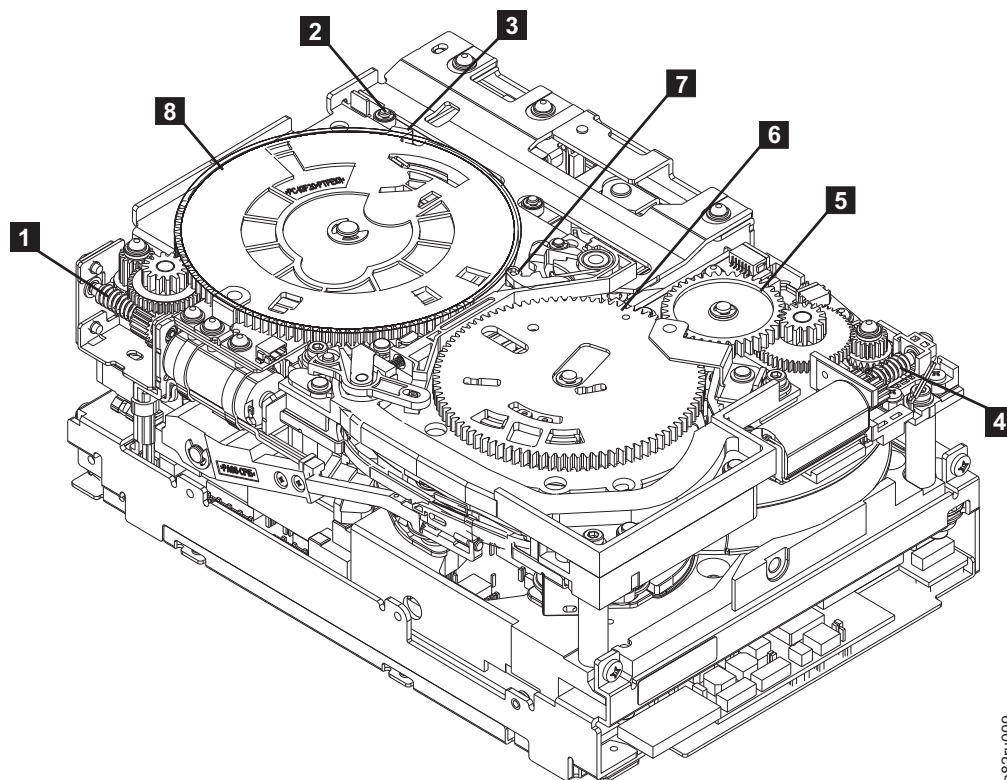
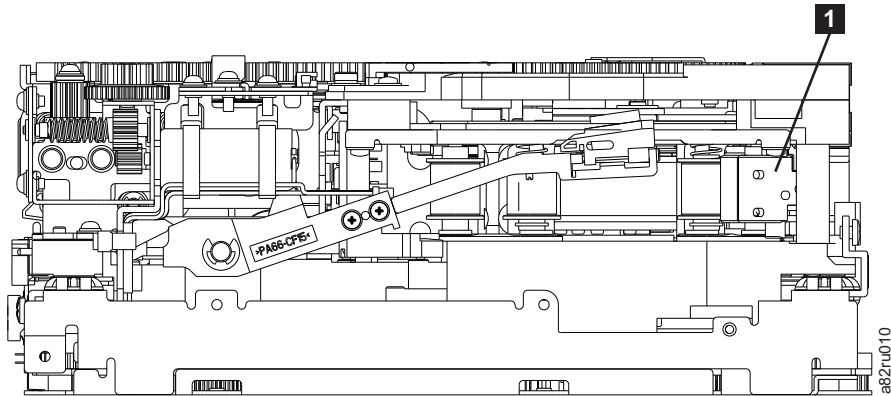

Figure A-16. Drive with cover removed to reveal gear train.
Figure A-17. Leader Block Assembly (LBA)
6. Locate the threader motor worm gear (**4** in Figure A-16 on page A-17) on the rear of the drive. Use your finger to rotate the threader motor worm gear and slowly rotate the threader mechanism gear (**6** in Figure A-16 on page A-17) clockwise. This rotates the threader motor worm gear (**4** in Figure A-16 on page A-17) clockwise, drawing the LBA into the cartridge.
7. As the tape leader block assembly (LBA) is secured in the cartridge, you should hear the LBA retention spring clips click into place. If you do not hear the click, continue rolling until the threader motor worm gear (**4** in Figure A-16) stops. The LBA is in the correct position.
- a. Loader mechanism gear (**6** in Figure A-16) nearest the front of the drive that actuates the cartridge loader mechanism.
- b. Position of the rotate stub (**3** in Figure A-16).
- c. Front loader motor worm gear (**1** in Figure A-16). Rotating this gear allows the loader mechanism gear (**8** in Figure A-16) to turn.
9. Rotate the loader motor worm gear (**1** in Figure A-16) to turn the threader mechanism gear (**6** in Figure A-16) counterclockwise. Continue turning until the rotator stub (**3** in Figure A-16) loses contact with the lever (**7** in Figure A-16). This releases the LBA leader pin.
10. Rotate the threader motor worm gear (**4** in Figure A-16 on page A-17) to turn the threader mechanism gear (**6** in Figure A-16 on page A-17) counterclockwise. This moves the LBA out of the cartridge and past the read/write head. Stop this rotation when the LBA is near the tape guide roller nearest the rear of the drive shown as **1** Figure A-17.
11. Continue rotating the loader motor worm gear (**1** in Figure A-16 on page A-17) until the rotator stub (**3** in Figure A-16 on page A-17) is positioned as shown. Notice that the rotator stub (**3** in Figure A-16 on page A-17) is nearly aligned with the cartridge loader tray guide bearing (**2** in Figure A-16 on page A-17).